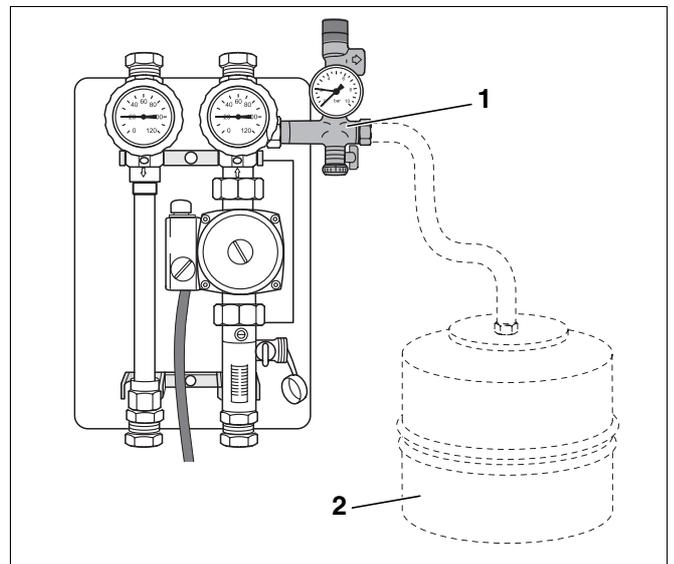

Fig. 8 Connecting the expansion vessel
A 25 litre expansion vessel (SAG 25) (Fig. 8, **Item 2**) is available as an accessory.
- ▶ Connect the expansion vessel (Fig. 8, **Item 2**) into the return of the safety assembly (Fig. 8, **Item 1**) of the solar heating station.
- ▶ Install the expansion vessel (Fig. 8, **Item 2**) with suitable fixing material.